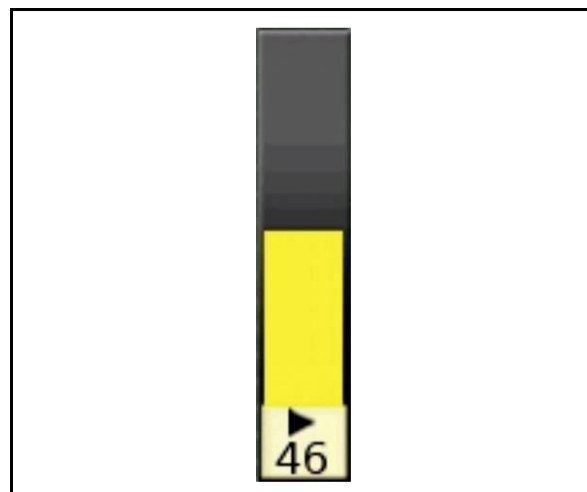

Fig. 148
2. Press the key button (1) of the multi-function joystick to the top (2) or bottom (3) and keep it pressed.
- The discharge door opens or closes. At the same time, the terminal displays the opening status of the discharge door as a yellow bar and percentage value (Fig. 148).